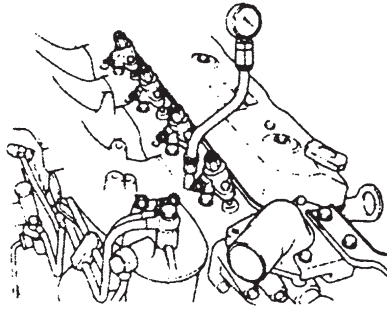

Fig. 1-18
1.3.9 Measurement of the compression pressure (See Fig. 1-18).